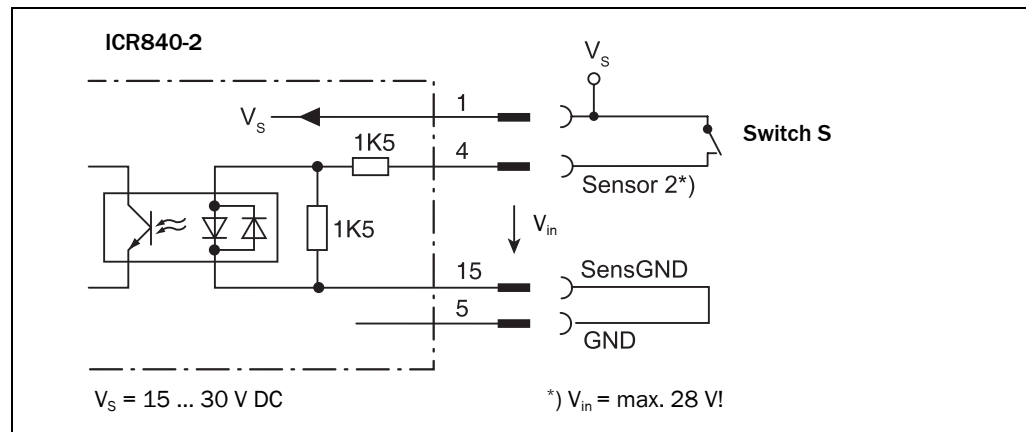

Fig. 10-17: Wiring the "Sensor 2" switching input for triggering the teach-in of match code 1 and for automatic activation of the code comparison
For teaching in match code 1 via the "Sensor 2" switching input, a switch must be connected (Fig. 10-17) and the functional assignment of the switching input, the teach-in mode and, if necessary, other settings must be done with the CLV-Setup configuration software.
2. Connect the switch in the CDB620 or CDM420 Connection Module at the "Sensor 2" switching input of the ICR840-2 as shown in Fig. 10-17, Page 154.